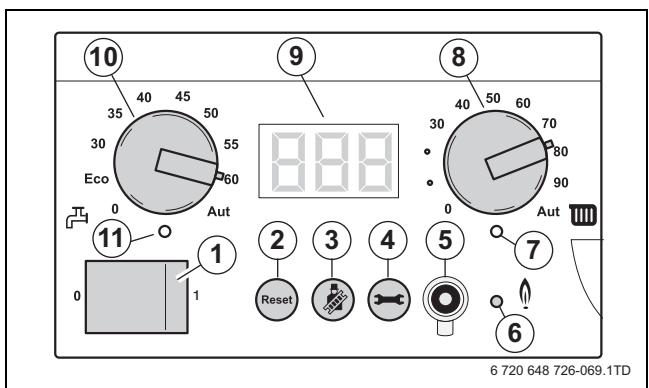

Fig. 90 BC10 basic controller
- ▶ Switch off the power supply to the heating system (→ fig. 90).
- ▶ Switch off the heating system by pressing the mains switch of the BC10 basic controller (→ fig. 90, [1]).
- ▶ Switch on the heating system by pressing the mains switch of the BC10 basic controller (→ fig. 90, [1]).
- ▶ Press and hold the “Chimney sweep” button (→ fig. 90, [3]) (approximately 2 seconds), until the dot in the right-hand bottom corner of the display (→ fig. 90, [9]) appears. See also table 10, “Flue gas test”, page 34.
- ▶ After the “Burner” LED (→ fig. 90, [6]) has lit up wait for one minute until the boiler is burning at full load.
- ▶ Press the “Chimney sweep” button (→ fig. 90, [3]) to clear the reading. See also table 10, “Flue gas test”, page 34.
- ▶ After the “Burner” LED (→ fig. 90, [6]) has lit up wait for one minute until the boiler is burning at part load.
- ▶ Set the DHW temperature dial (→ fig. 90, [10]) to the required temperature of the hot water in the hot water cylinder (→ table 18).